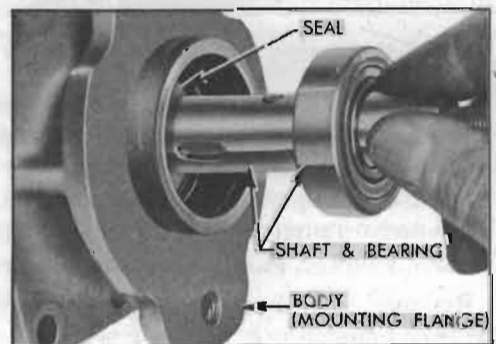

Figure 7-48—Installing Shaft and Bearing
2. Install shaft and bearing as an assembly, and press against outer race to seat bearing in body. See figure 7-48.